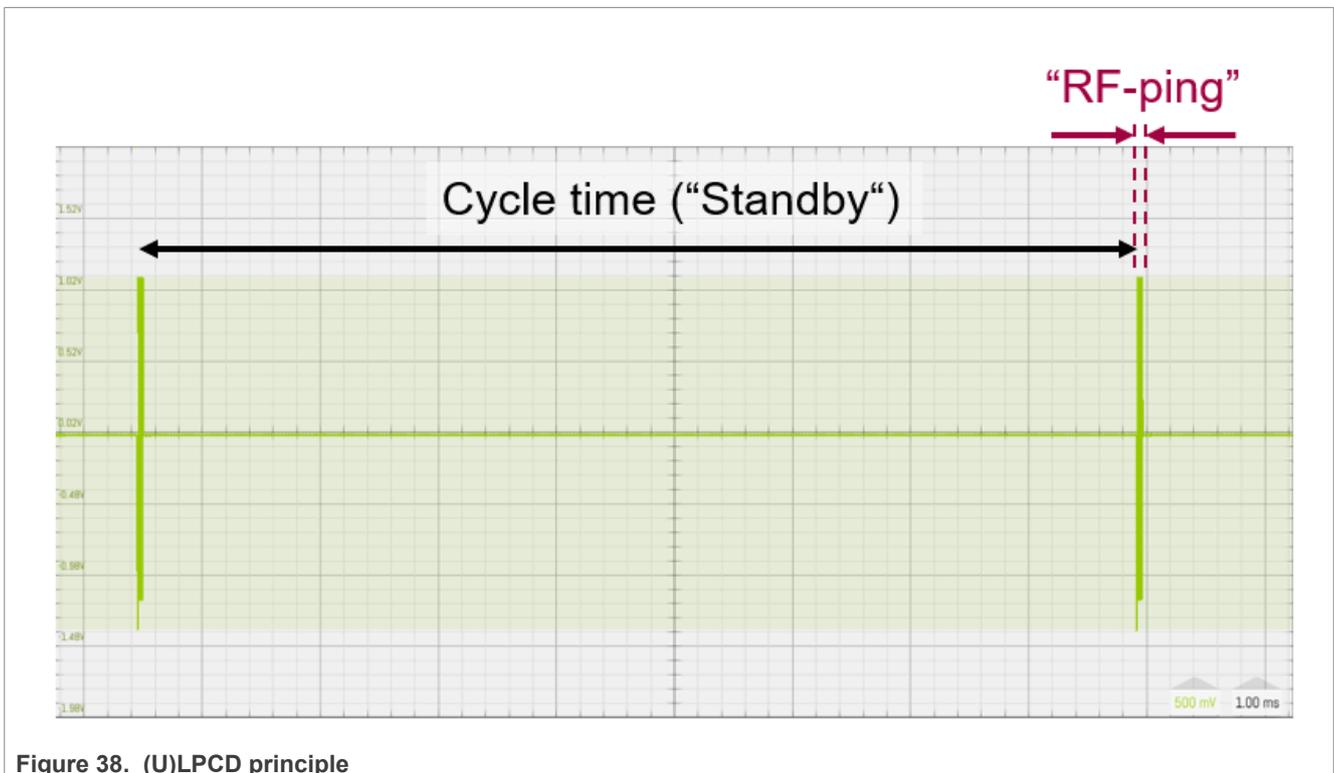

Figure 38. (U)LPCD principle
The PN5190 offers a low-power card detection feature. This feature can be used to operate the PN5190 with an average low or very low power consumption, while the PN5190 wakes up automatically, as soon as a card is detected in proximity distance. Instead of an active card polling (according to ISO/IEC 14443 or NFC), the PN5190 uses a very short RF carrier pulse to detect an antenna detuning. The Figure 38 shows a capture of a sniffer signal to indicate the (U)LPCD principle. The cycle time defines the period of time, where the PN5190 "sleeps". At the end of every cycle, the PN5190 creates a short RF pulse ("RF ping"), which is used to detect a possible antenna detuning. The PN5190 automatically falls back to "sleep", if no detuning has been detected. A detuning causes the PN5190 to wake up, i.e. to stop the (U)LPCD, and then trigger the host  $\mu$ C via interrupt.